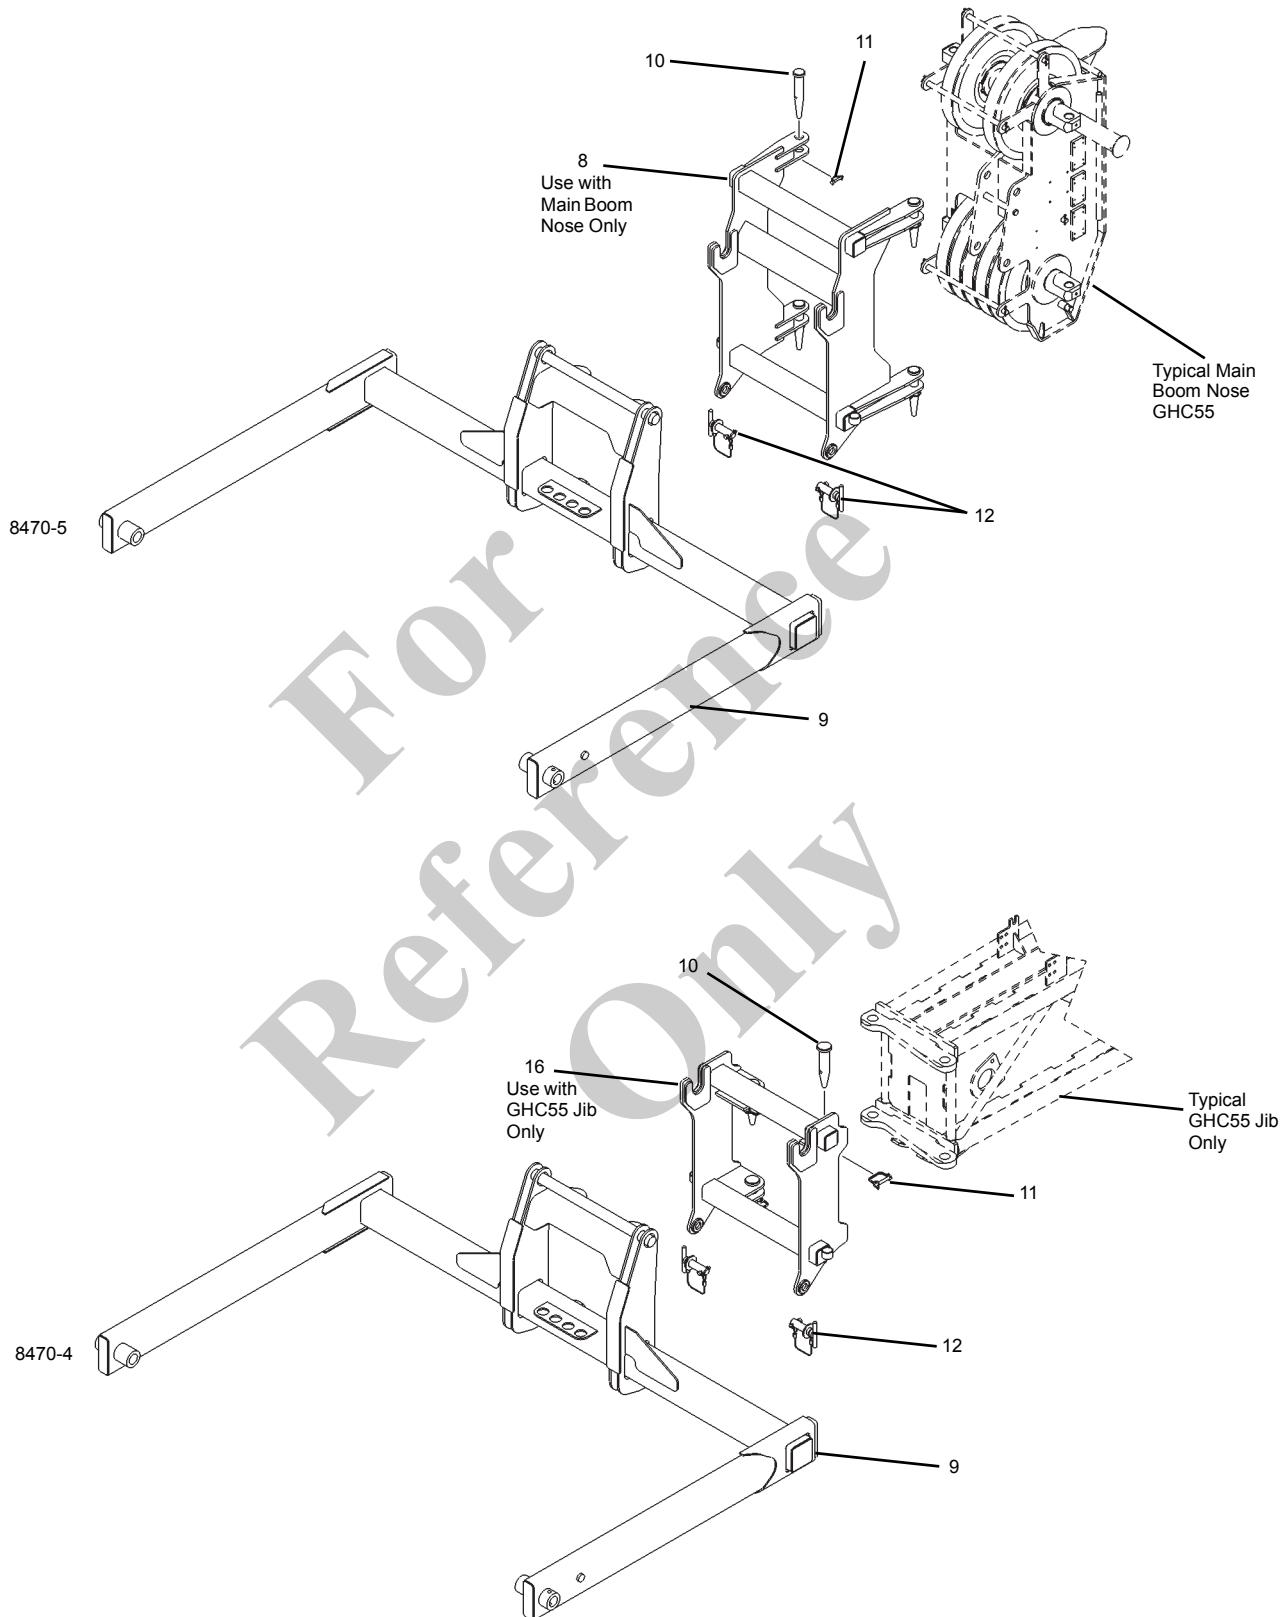
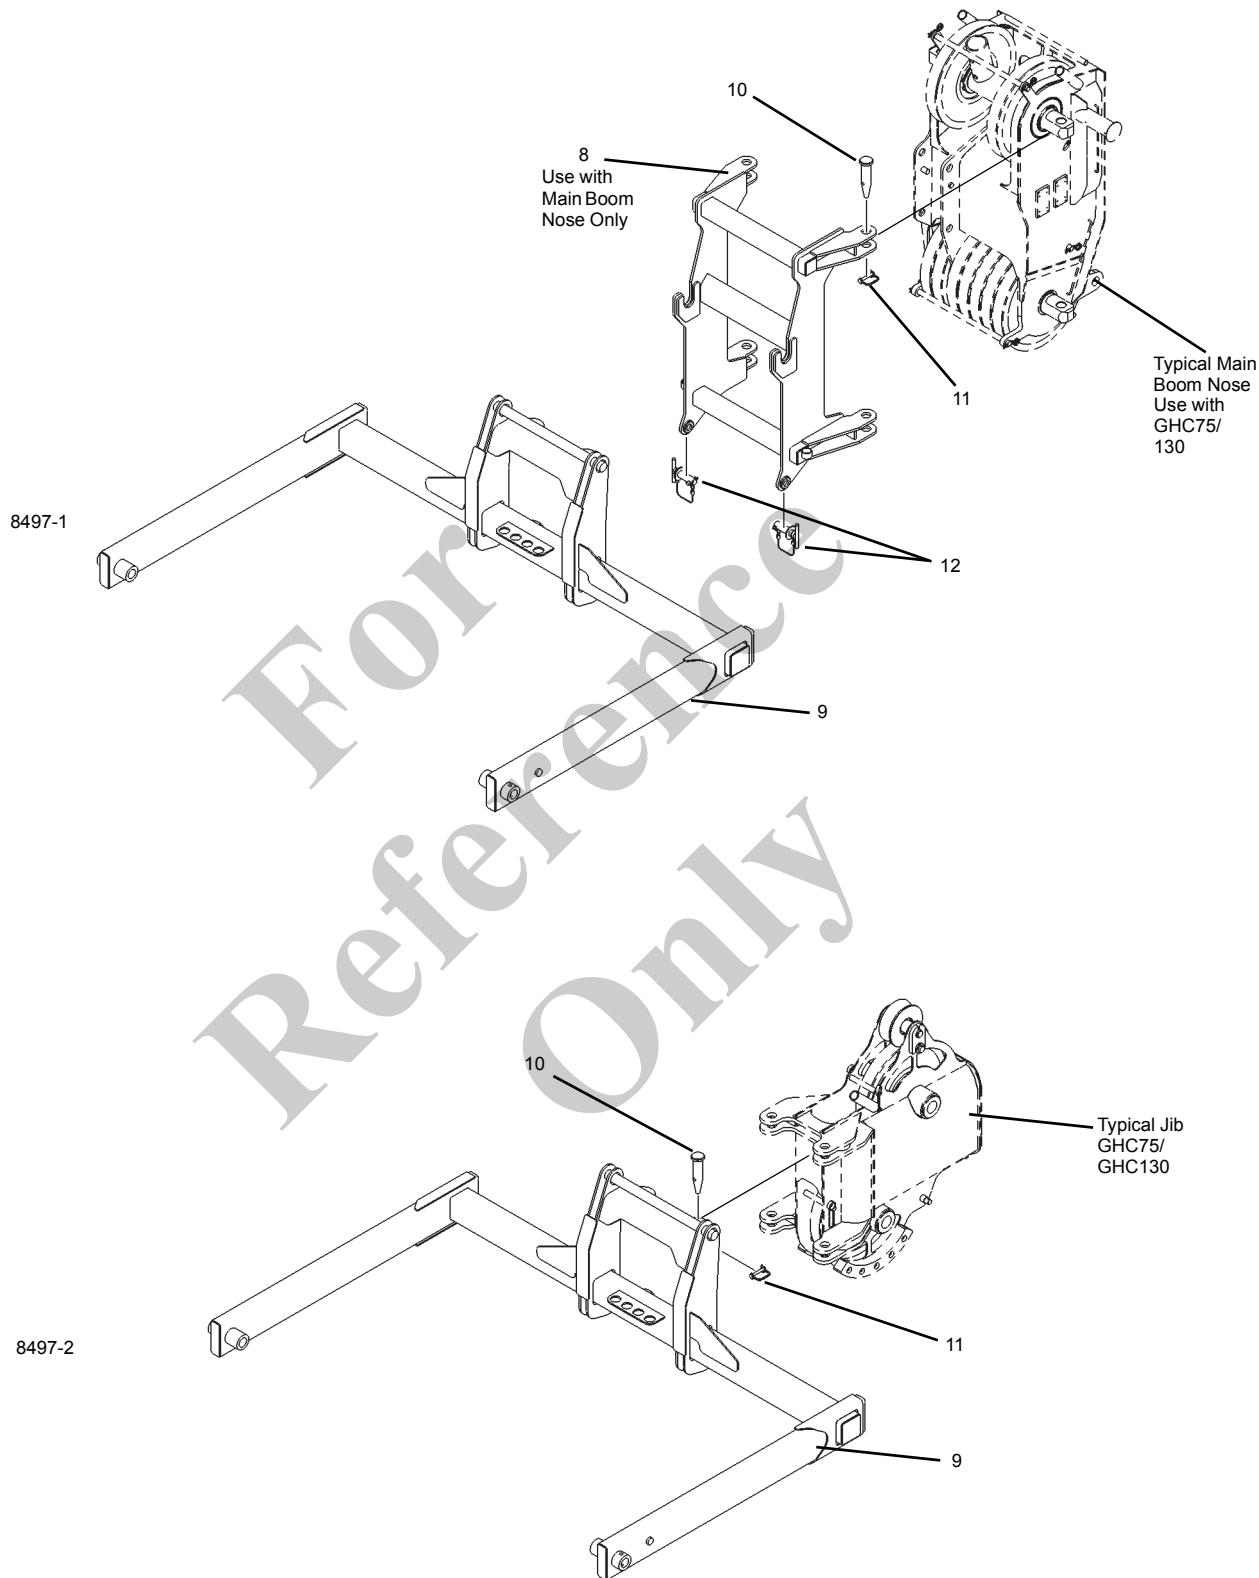

FIGURE 1-3
FIGURE 1-4
Use the Basket Parts List, Figure 1-2, Figure 1-3 and the *Basket Type and Test Weights* table to determine which basket type and weight combinations to use for each different test lift.
1. Install two bracket assemblies (1, Figure 1-2, Figure 1-3).
4. Position the weight on the floor and lower the basket assembly onto the weight. Connect the weight to the basket with the two slings (Figure 1-2, Figure 1-3).
The baskets use the quick attaching system to attach the basket to the tip of the boom or jib. See (Figure 1-2) and (Figure 1-3) and (Figure 1-4) for yoke basket attachment.
2. Position the adapter (8) to the tip of the main boom nose using attaching hardware (10) & (11) see (Figure 1-3) and (Figure 1-4).
3. Position the yoke (9) to the adapter (8) using attaching pin (12) see (Figure 1-3) and (Figure 1-4).
1. Remove adapter (8) from the boom nose to allow for jib deployment. Stow away adapter for future use.
3. On Model GHC55 only, position the adapter (16) to the tip of the jib using attaching hardware (10) & (11). See (Figure 1-2) and (Figure 1-3).
4. Position the yoke (9) to the adapter (16) using attaching pins (10, 11 and 12) see (Figure 1-3).
5. On Model GHC75 and GHC130, position the yoke (9) directly to the jib using attaching pins (10 and 11) see (Figure 1-4).